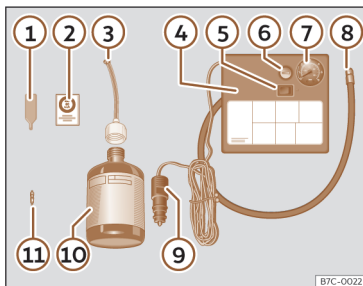

Fig. 198 Standard display: contents of the anti-puncture kit.
The anti-puncture kit is located underneath the floor covering in the luggage compartment. Includes the following components >>> **Fig. 198**:
- Unscrew the tyre valve cap and insert. Use the device >>> **Fig. 198** ① to remove the valve cap. Place it on a clean surface.
- Shake the tyre sealant bottle vigorously >>> **Fig. 198** ⑩.
- Screw the tyre inflation hose >>> **Fig. 198** ③ into the tyre sealant bottle. The bottle's seal will break automatically.
- Remove the filler cap >>> **Fig. 198** ③ and screw the open end of the tube into the tyre valve.
- Replace the howitzer with the device >>> **Fig. 198** ① onto the tyre valve.
- Screw the tyre inflation tube of the compressor >>> **Fig. 198** ⑧ on the tyre valve.
- Check that the air evacuation screw is closed >>> **Fig. 198** ⑥.
- Attach the connector >>> **Fig. 198** ⑨ to the vehicle's 12 volt power outlet >>> page 228.
- Switch on the air compressor with ON/OFF switch >>> **Fig. 198** ⑤.
- Attach the sticker >>> **Fig. 198 ②** to the instrument panel display, within the driver's field of vision.
Screw in the inflator tube >>> **Fig. 198 ⑧** again and check the pressure on the gauge **⑦**.